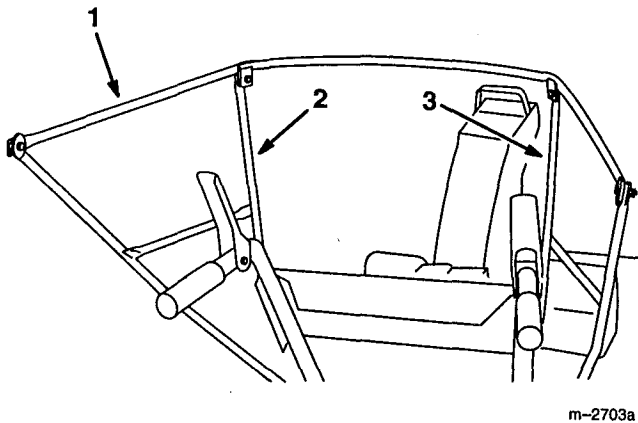

Figure 4
1. Fasten the rear of the horizontal bow to the inside of the left and right brackets with the 1/4"-20 x 1" (25 mm) bolts, 1/4" x 1-1/4" (32 mm) fender washers and locknuts provided with the kit. Leave the locknuts finger-tight (Figs. 4 and 5).
2. Fasten the front of the horizontal bow to the inside of the left and right brackets with the 1/4"-20 x 3/4" (19 mm) hex head bolts and locknuts provided with the kit. Leave the locknuts finger-tight. Make sure the front bolt heads face outward (Figs. 4 and 6).